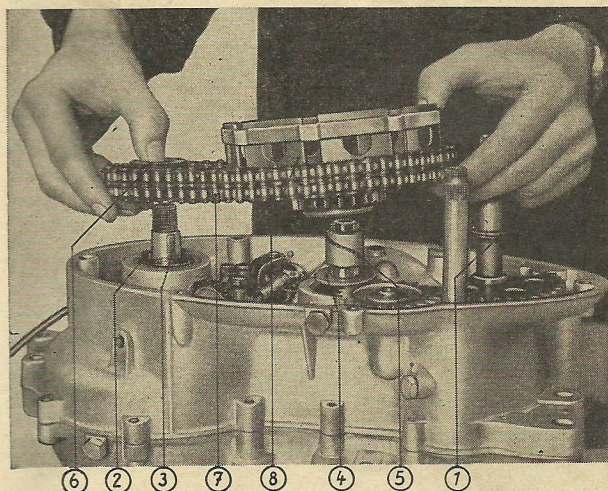
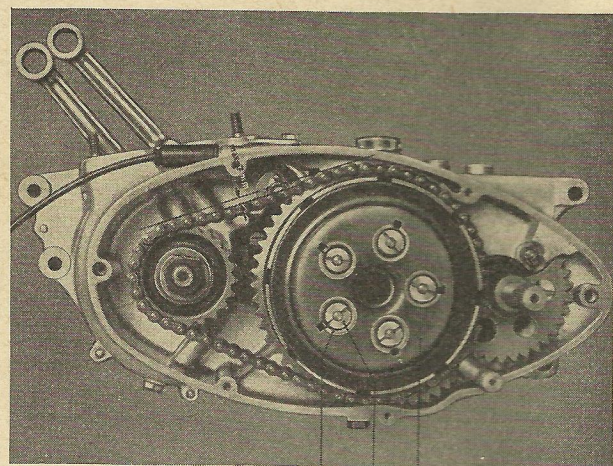
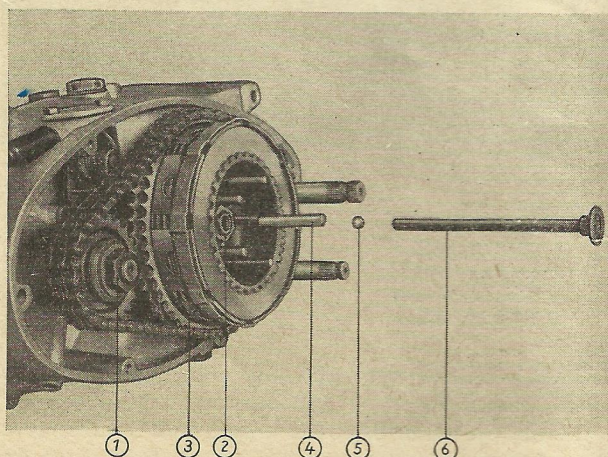

Fig. 15: Clutch
Fig. 16: Sag of engine chain
Fig. 17: Clutch thrust pins
3. Mount the small thrust collar (fig. 15/1) facing the crankcase cover.
1. Put spring washer (fig. 15/2) on the crankshaft stub and insert woodruff key (fig. 15/3). Place check plate (fig. 15/4) and bushing (fig. 15/5) on countershaft.
2. Install engine sprocket (fig. 15/6) together with the chain (fig. 15/7) and clutch drum (fig. 15/8). Mount clutch hub, put in clutch hub holding tool and chain sprocket clamp, fit locking discs on crankshaft stub and countershaft, put on nuts (fig. 17/1/2) and tighten them lightly at first. Check chain tension (see fig. 16). If the sag exceeds 0,276 in., the chain should be exchanged for a new one. After inspection tighten nuts (fig. 17/1/2) and bend up locking discs.
4. Assemble the clutch discs (fig. 17/3), first putting in the thick steel disc, then alternately a friction disc and exterior tooth projections to fit the grooves in the clutch drum (there are seven of these) and a steel disc with interior tooth projections to fit the grooves in the clutch hub. Finally the steel disc with bent-up prongs, the prongs facing inward, is mounted.
5. Insert the clutch thrust pin (fig. 17/4), its rounded end forward, ball (fig. 17/5) and thrust bolt with button in this order (fig. 17/6).
6. Install thrust plate (fig. 16/1) for clutch springs, fit the spring retainer cups (16/2) together with the springs into the apertures of the thrust plate and screw them down uniformly by means of collar nuts. The nuts must not be screwed down